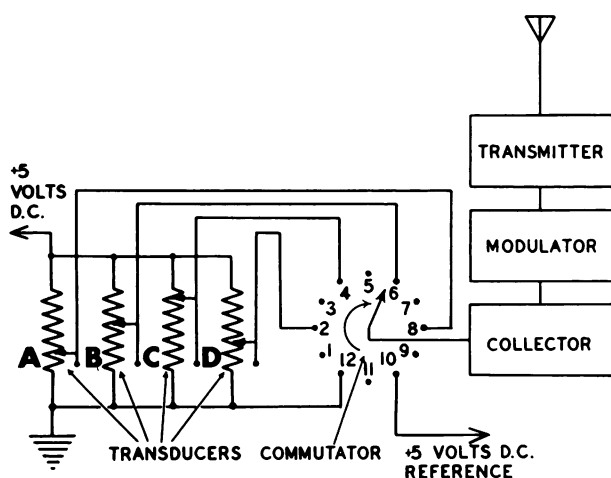
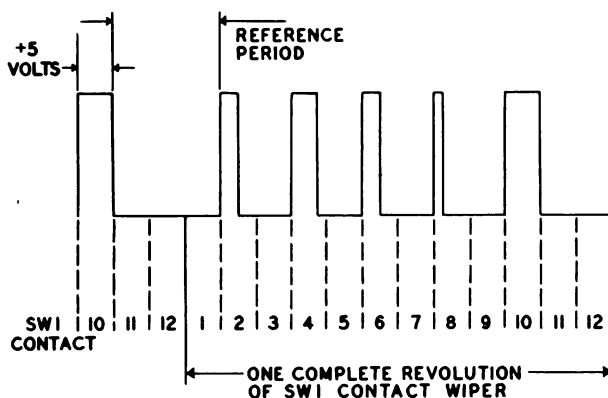

Figure 5E.—Transmitting section of a 4-channel P-W-M/F-M telemetering system.
Figure 5F.—Width-modulated pulse chain.
The diagram of the system shown in figure 5E has been deliberately simplified for purposes of instruction. In actual operations, open pins 1, 3, 5, etc., are normally grounded to avoid the transmission of any stray signals that may be present on these pins.
22. What purpose is served by reference pulse number 10 in the equipment shown in figure 5E?
23. Which of the components shown in figure 5E receives a signal consisting of height-modulated pulses and converts it into a signal like the one shown in figure 5F?
24. In the pulse chain shown in figure 5F, the reference period formed by the grounding of the commutator contact is called the
25. In the pulse chain shown in figure 5F, pulse number 2 is exactly two-fifths as wide as pulse number 10. This indicates that the output of transducer D is
26. The main difference between equipment that can be used to receive the signals sent out by the transmitting equipment shown in figure 5E and equipment that can be used to receive signals sent out by a rate-modulated pulse-telemetering transmitter lies in the
27. What kind of recorder is generally used in the equipment that receives the signals sent out by the transmitting section shown in figure 5E?